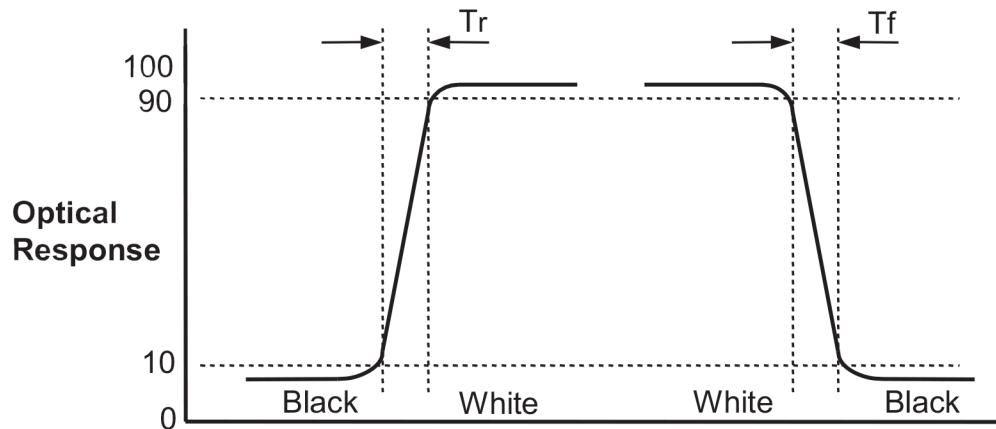

FIG. 11 Response Time
2. Response time is the time required for the display to transition from G(0) to G(1023) (Rise Time, Tr_R) and from G(0) to G(1023) (Decay Time, Tr_D). For additional information see the FIG. 11.